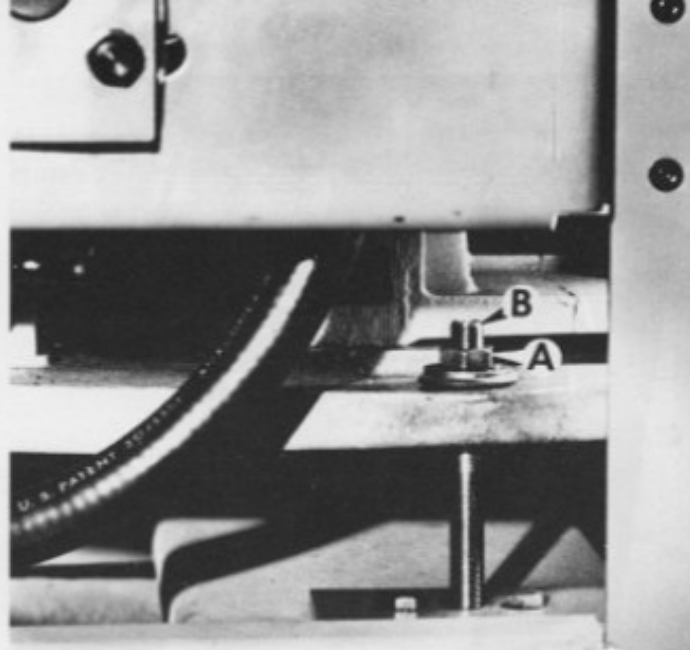

Figure 2 — Drive Belt Adjusting Screw
TO ADJUST BELTS. loosen lock nut "A", Figure 2. Turn adjusting screw "B" clockwise to lower motor and tighten belts. Each time after adjusting, start machine spindle and allow it to coast to a stop with brake selector switch in "Off" position to allow belts to equalize their tension.
4. Remove lock nut "A", Figure 2.